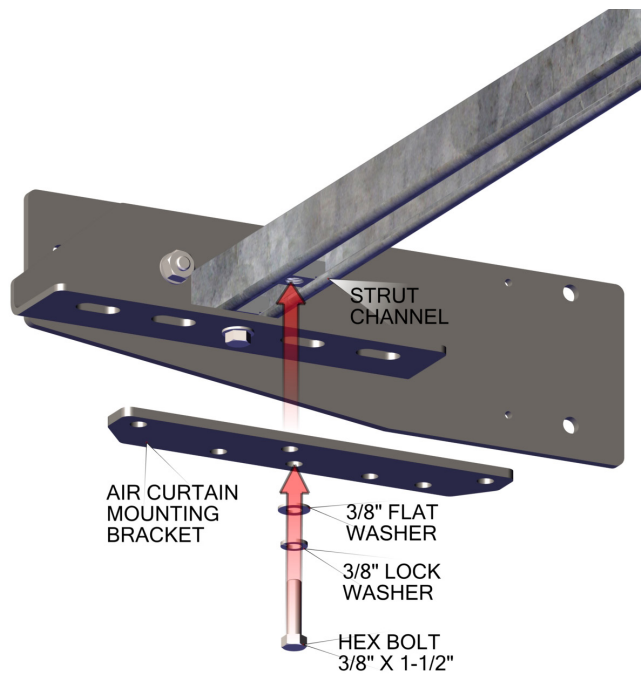

Figure 26
- Assemble the air curtain mounting brackets to the inner strut channel nut, previously installed, see Figure 26.